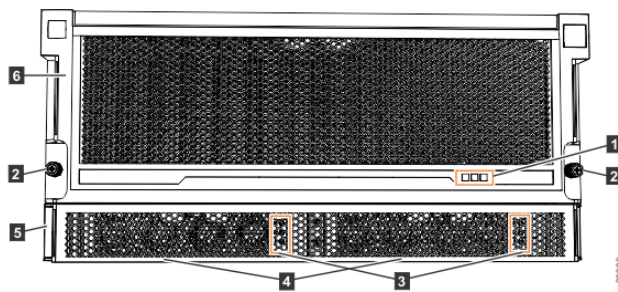

Figure 138. Features on the front of the 5U expansion enclosure
**Important:** Before you connect the power cables to the rear of the enclosure, always check that the expansion enclosure is secured in the rack. If needed, tighten the thumbscrews on the front of the enclosure (2 in Figure 138 on page 117) to ensure that the enclosure drawer does not roll open.
The 5U expansion enclosure has two power supply units (PSUs) that are accessible from the front of the enclosure (4 in Figure 138 on page 117). As the figure also shows, the PSUs are covered by the 1U fascia (5).